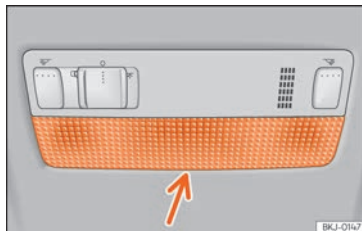

Fig. 167 Front reading light.
- Insert a fine screwdriver between the casing and the glass >>> Fig. 167.